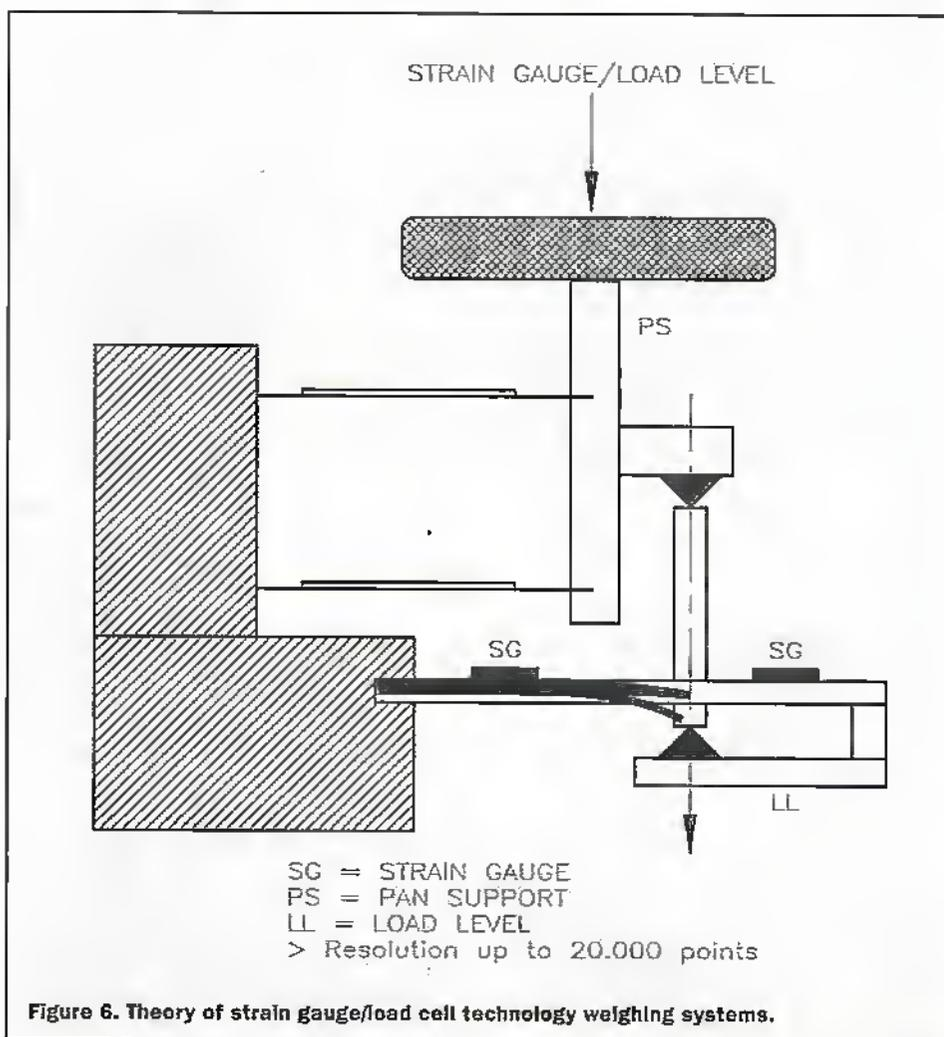

Figure 6. Theory of strain gauge/load cell technology weighing systems.
The basic principle of the load cell is indicated in Figure 6. The downwards force on the pan support (PS) applies a force across a lower support on which is placed two strain gauges. The relative deformation of the two strain gauges increases as mass is loaded onto the pan. The signal from the strain gauge is amplified accordingly. The signal response of the strain gauge has a component of non-linearity which is compensated for in each individual balance by a customised linearisation function which is typically built into its firmware.